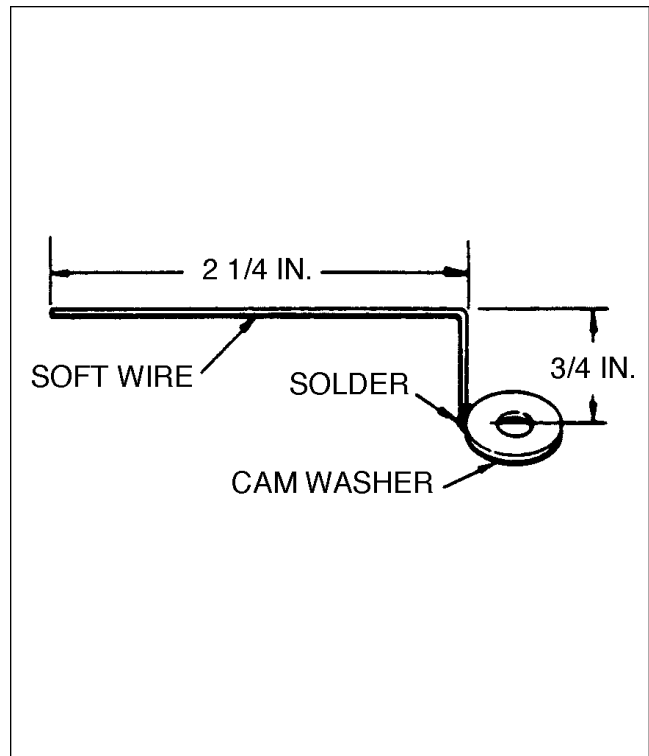

Figure 8-18. Timing Pointer
**NOTE: A timing kit, including timing plate, etc, may be purchased through the engine or magneto manufacturer. A pointer may be formed as shown in Figure 8-18.**